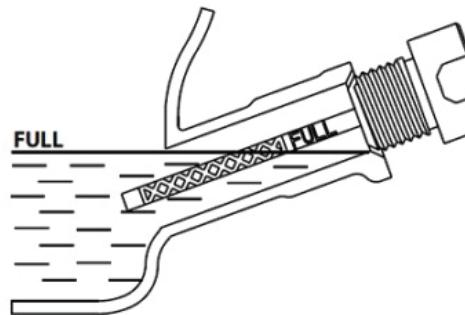

Figure-3 Oil Level
- After the filling process is completed, remove the funnel, replace it with the oil dipstick and check whether the oil you have filled is at the appropriate level, as shown in Figure-3.